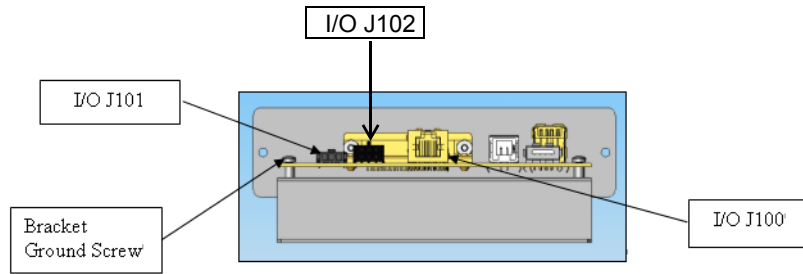

Figure 4: I/O Bracket
9. Connect the *P102* Molex receptacle on the flapper box wire harness to the *J102* connector on the I/O board ("Figure 4: I/O Bracket").